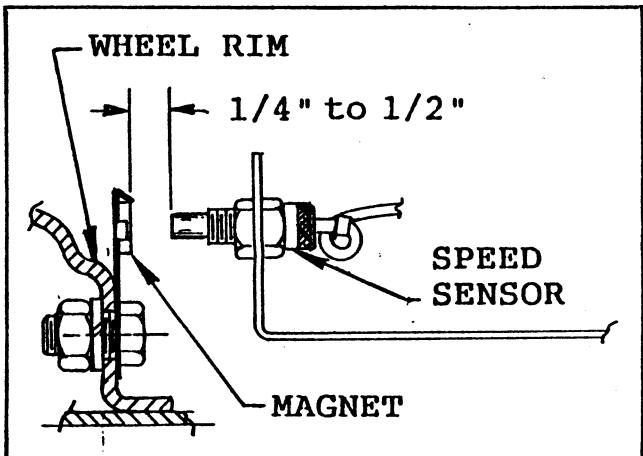

FIG. 10
- Mount the magnet clip to the inside of the Vehicle's left-rear wheel. Use the 7/16" bolt, lock washer and nut (in parts bag) to secure the clip to one of the square holes in the wheel rim. See FIG. 10.
- Turn one 3/8" locking nut onto the sensor and insert the sensor into the large hole in the mounting bracket as shown in FIG. 10 and turn on remaining lock nut. Adjust nuts until the tip of the sensor extends a minimum of 1/4 inch beyond the locking nut.